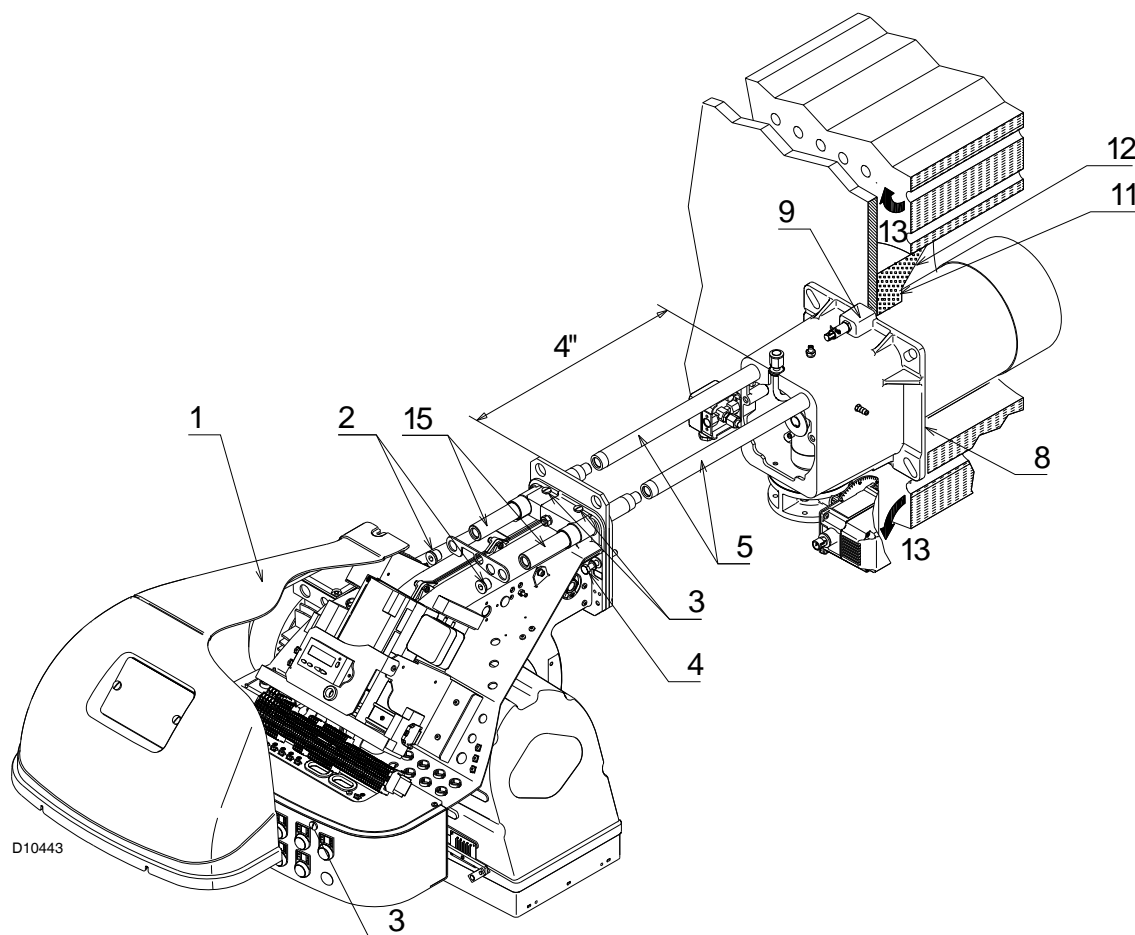

Fig. 12
- For boilers with front flue passes 13)(Fig. 12) or flame inversion chambers, a protection in refractory material 11) must be inserted between the boiler refractory 12) and the blast tube 10). This protection must not compromise the extraction of the blast tube.
- For boilers with a water-cooled frontal, a refractory lining is not necessary 11)-12)(Fig. 12) unless expressly requested by the boiler manufacturer.
- Secure the burner to the boiler, fixing the flange 9)(Fig. 12) to the boiler plate and interposing the insulating gasket 8).
- loosen the 4 screws 3)(Fig. 12) and remove the cover 1);